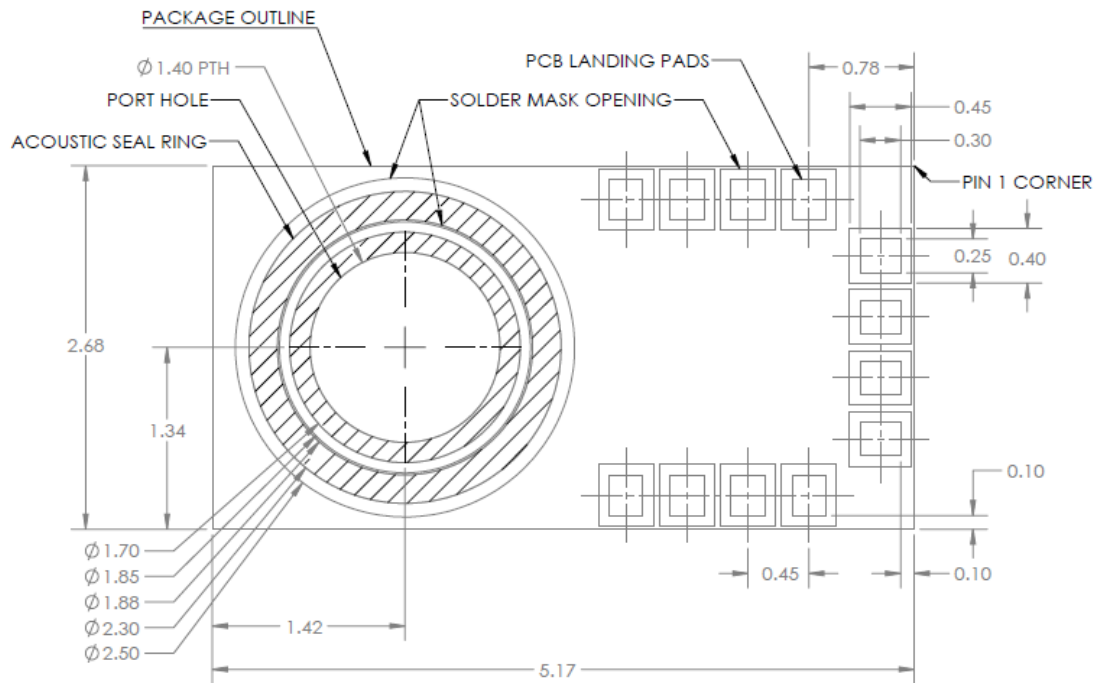

Figure 8. Recommended SMT dimensions for solder mask and PCB land pads
- PCB land height and width should be equal the transceiver pad height and width (Figure 8)
- Solder mask opening should exceed PCB land height and width by 0.1mm (Figure 8)